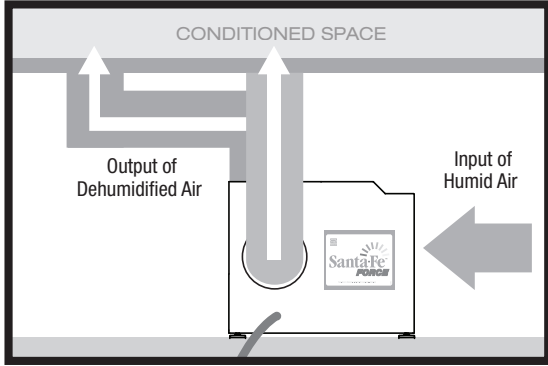

Figure 3: Installation in a remote area with ducted outlets
4.2C Remote Area, w/Outlets Ducted (Figure 3)